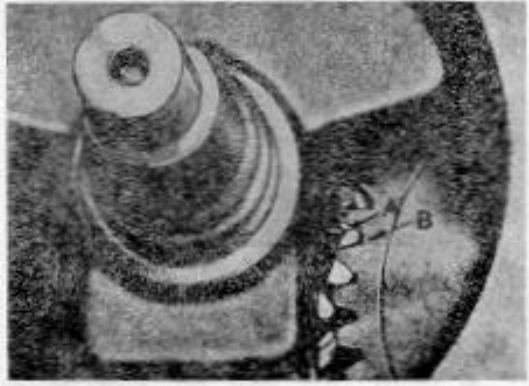

Figure 21
- The installation of crankshaft in cylinder block is illustrated in Figure 21.
- Timing marks are provided on crankshaft and camshaft gears for correct timing of engine. When in place, mark between teeth of camshaft (B, Fig. 21) must line up with mark on shoulder of crankshaft (A, Fig. 21). (Chalk timing mark positions for ease of viewing (during assembly).